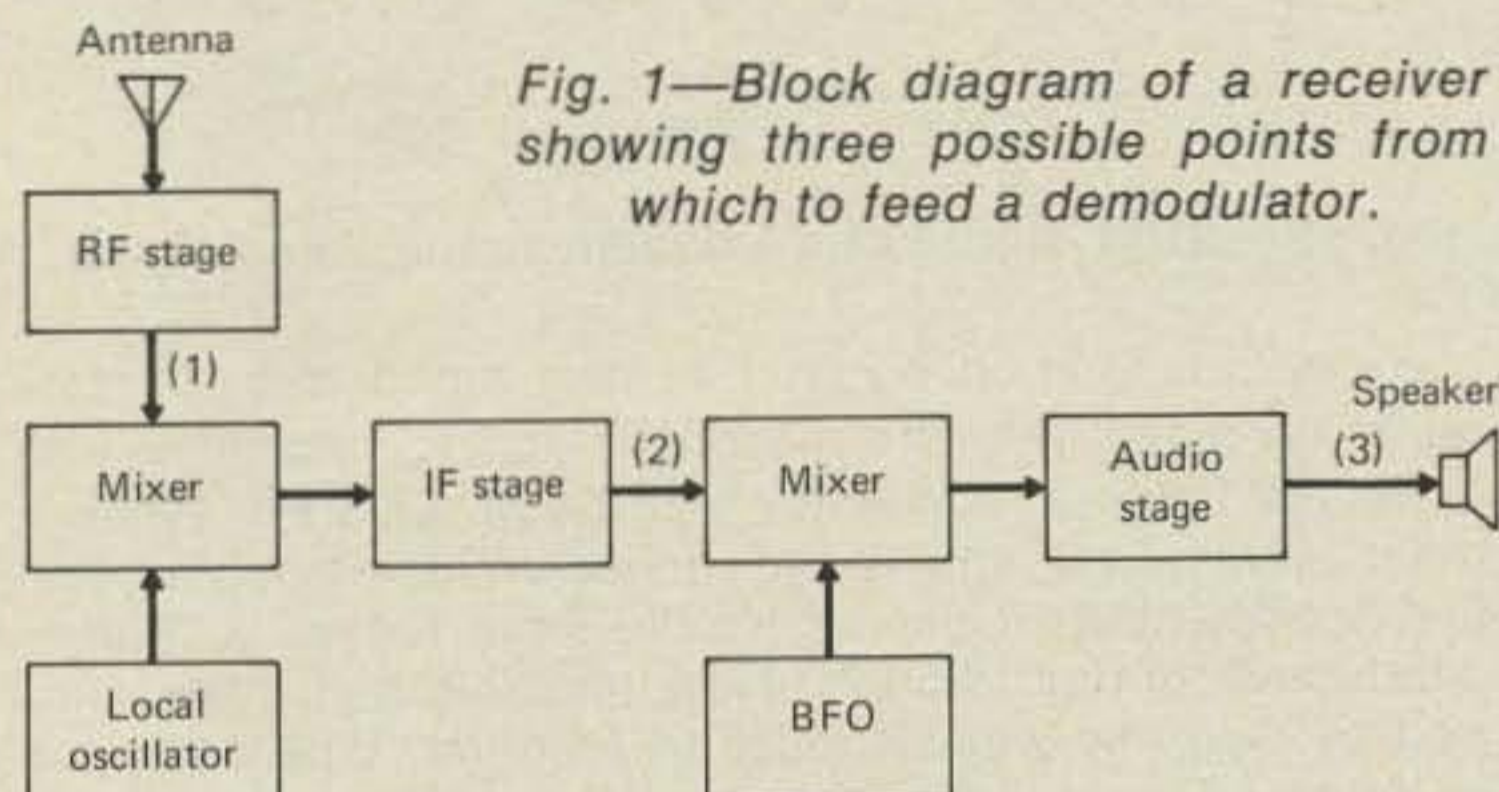

Fig. 1—Block diagram of a receiver showing three possible points from which to feed a demodulator.
Referring to fig. 1 consider the RTTY signal characteristics at each of the following three points: (1) after the r.f. stage, (2) after the i.f. stage, and (3) after the audio stage.